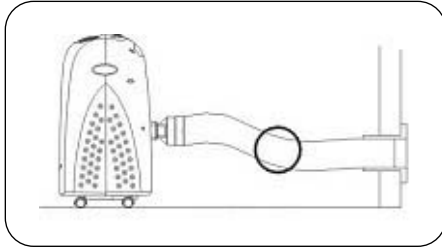

FIG.8
- Avoid kinks and bends in the exhaust hose as this will cause expelled moist air to build up causing the unit to overheat and shut down. (Fig 8 & 9 show correct position).